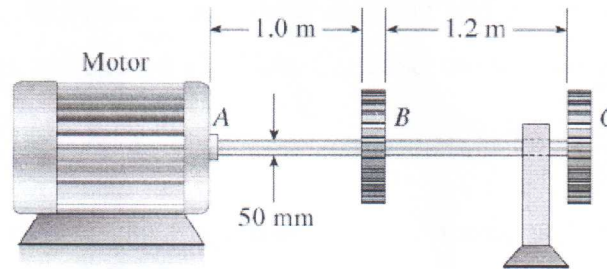

Figure 2.
- (8) Solid steel shaft in torsion shown in Figure 2. The motor transmits 50 kW to the shaft *ABC* of 50 mm diameter at 10 Hz. The gears at *B* and *C* extract 35 kW and 15 kW respectively. Calculate the maximum shear stress in the shaft and the angle of twist (ϕ_{AC}) between the motor and the gear *C*. Use $G = 80$ GPa.